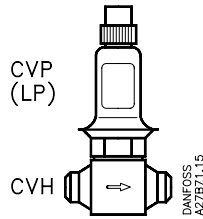

Fig. 9
Type CVP or CVPP is mounted in the top cover of the PM main valve. See figs. 2, 4 and 7. The accompanying gaskets for CVP and CVPP must be fitted before mounting and the o-ring must be lubricated with refrigeration oil. The pilot valve has a width across flats of 32 mm and should be tightened with a torque of 50 Nm (5 kpm). Type CVP or CVPP can also be mounted separately in a valve housing, and used as a pilot valve or an independent valve. See figs. 9 and 10. If the CVP/CVPP + valve body CVH is used as a pilot valve the unit is mounted in a pilot line with flow towards the main valve. The nipple (6) on the CVPP is connected to external control pressure. CVP/CVP (LP) must not be exposed to pulsations from the discharge side of the compressor.